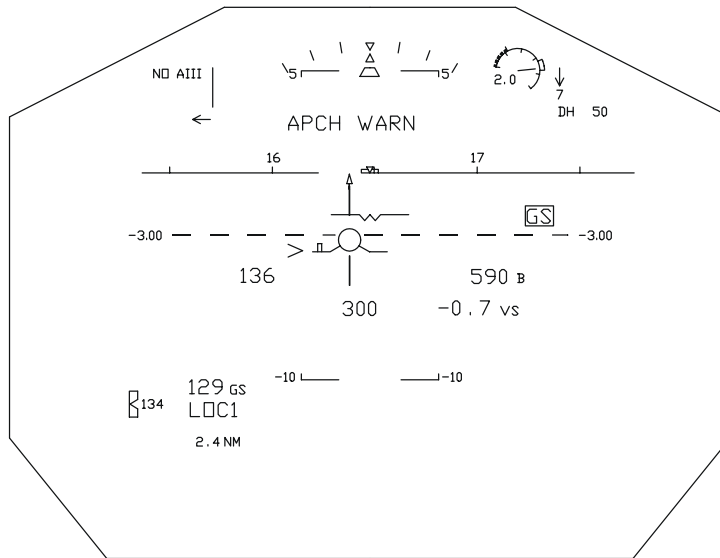

Figure 3-9:
- “NO AIII” flashes for 5 seconds and then is steady on the Combiner display (Figure 3-9).
Below 500 feet AGL, if AIII capability is lost, or approach and landing performance is out of tolerance, an approach warning occurs: “APCH WARN” shows on Combiner display (Figure 3-9) and in red on the PFDs. If an approach warning occurs, the left-side pilot should do a go-around, unless adequate visual cues are available.
NOTE: Figure 3-9 shows a glideslope failure at 300 feet that causes a loss of AIII. “APCH WARN” and “NO AIII” show on the Combiner display, and glideslope raw data and the Guidance Cue are removed from the Combiner display.